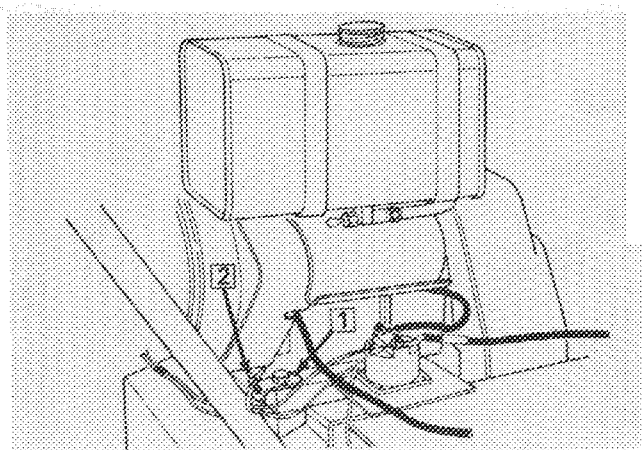

Figure 11
23. Remove rear engine mounting capscrew and secure wire clamp bracket using capscrew removed (Fig. 11).
24. Secure wiring to wiring clamp bracket with tie wrap (Fig. 11).